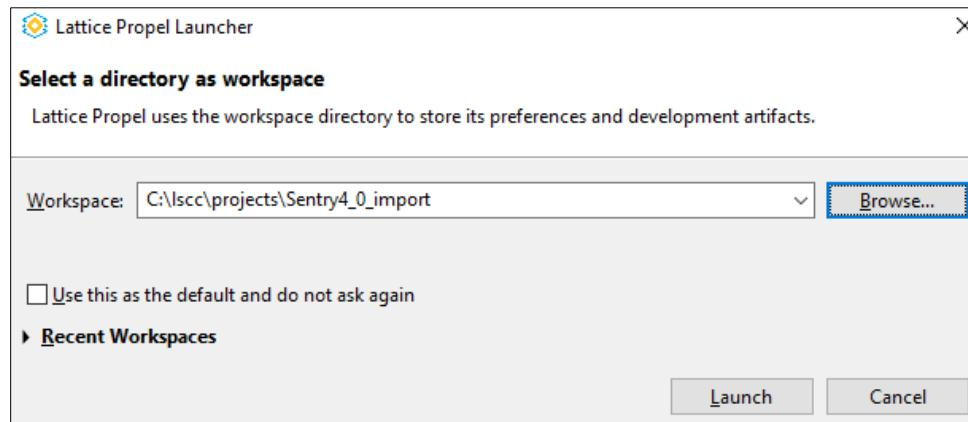

Figure 5.2. Lattice Propel Launcher – Select the Directory for Importing SoC and C Projects
2. In the Lattice Propel launcher, click **Browse** and navigate to the directory created in the Create a Blank Workspace section, Step 1 (Figure 5.2).
2. In Lattice Propel Launcher, click **Browse** and navigate to the directory created in the **Create a Blank Workspace** section, Step 1 (Figure 5.2).